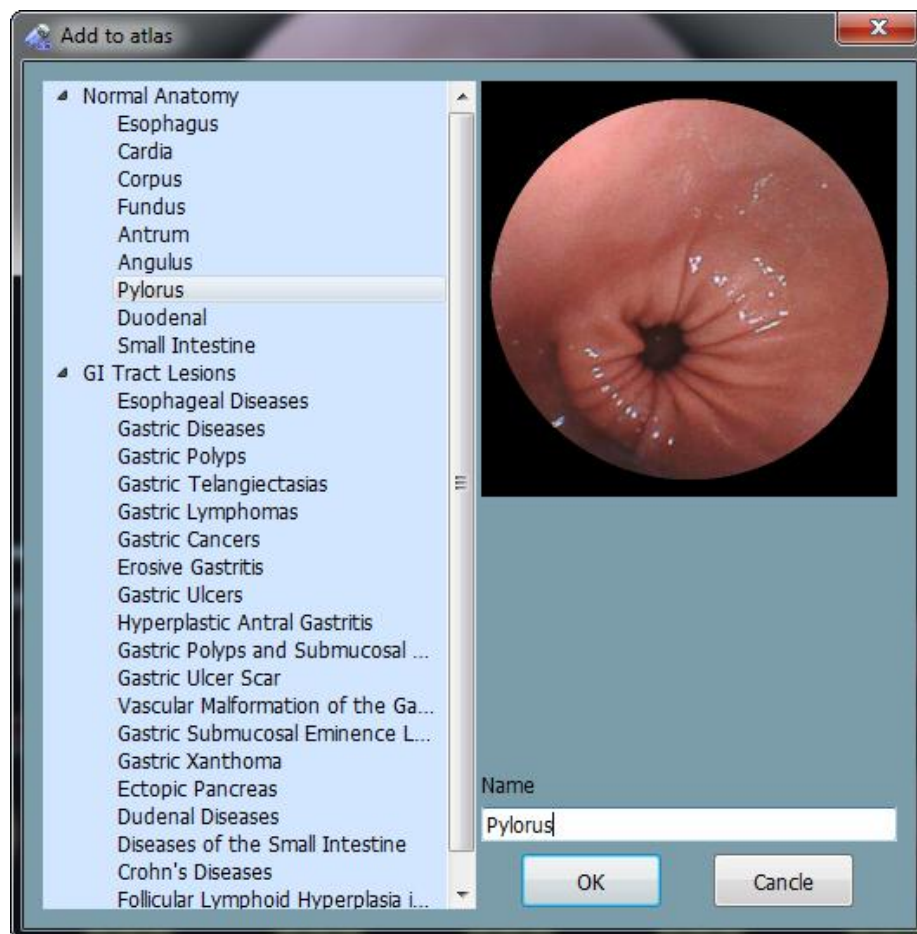

Figure 4- 100 Add to Atlas
3. Access to Image Browsing interface as shown in Figure 4-12, click “Tool” → “Capsule endoscope atlas” to access capsule endoscope atlas interface, click **【Pylorus】** in the left column, the “Pylorus” image added in step 1-2 can be seen as shown in Figure 4- 101.